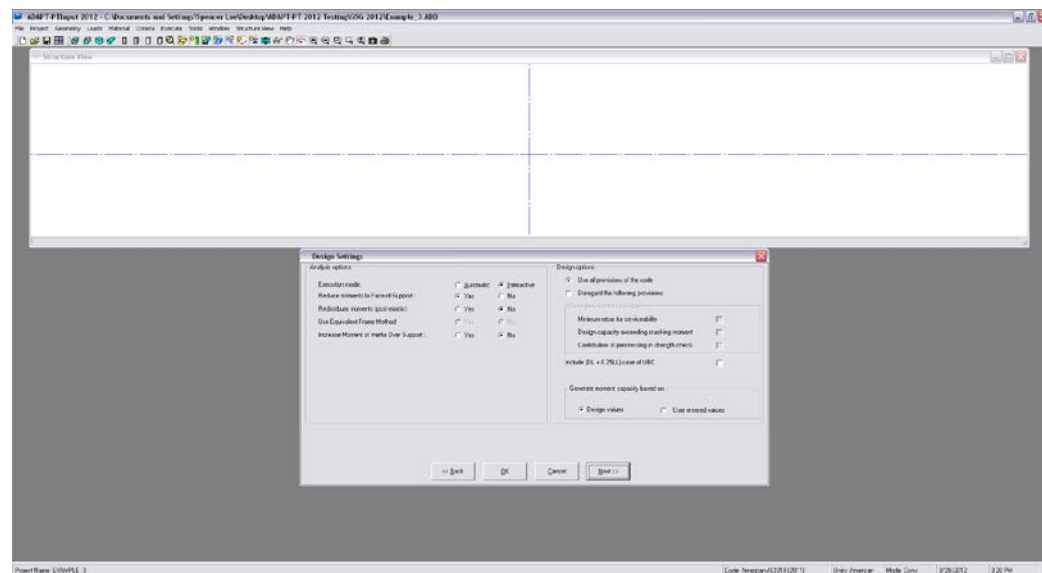

FIGURE 4.2-3
4.2.1.3 Design Settings (Fig. 4.2-3)